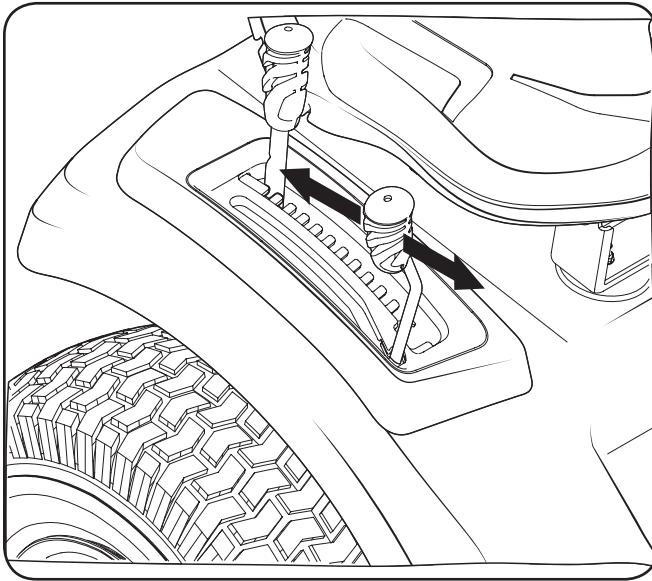

Figure 5-4
2. Push the PTO handle forward into the ENGAGED (ON) position. See Figure 5-4.